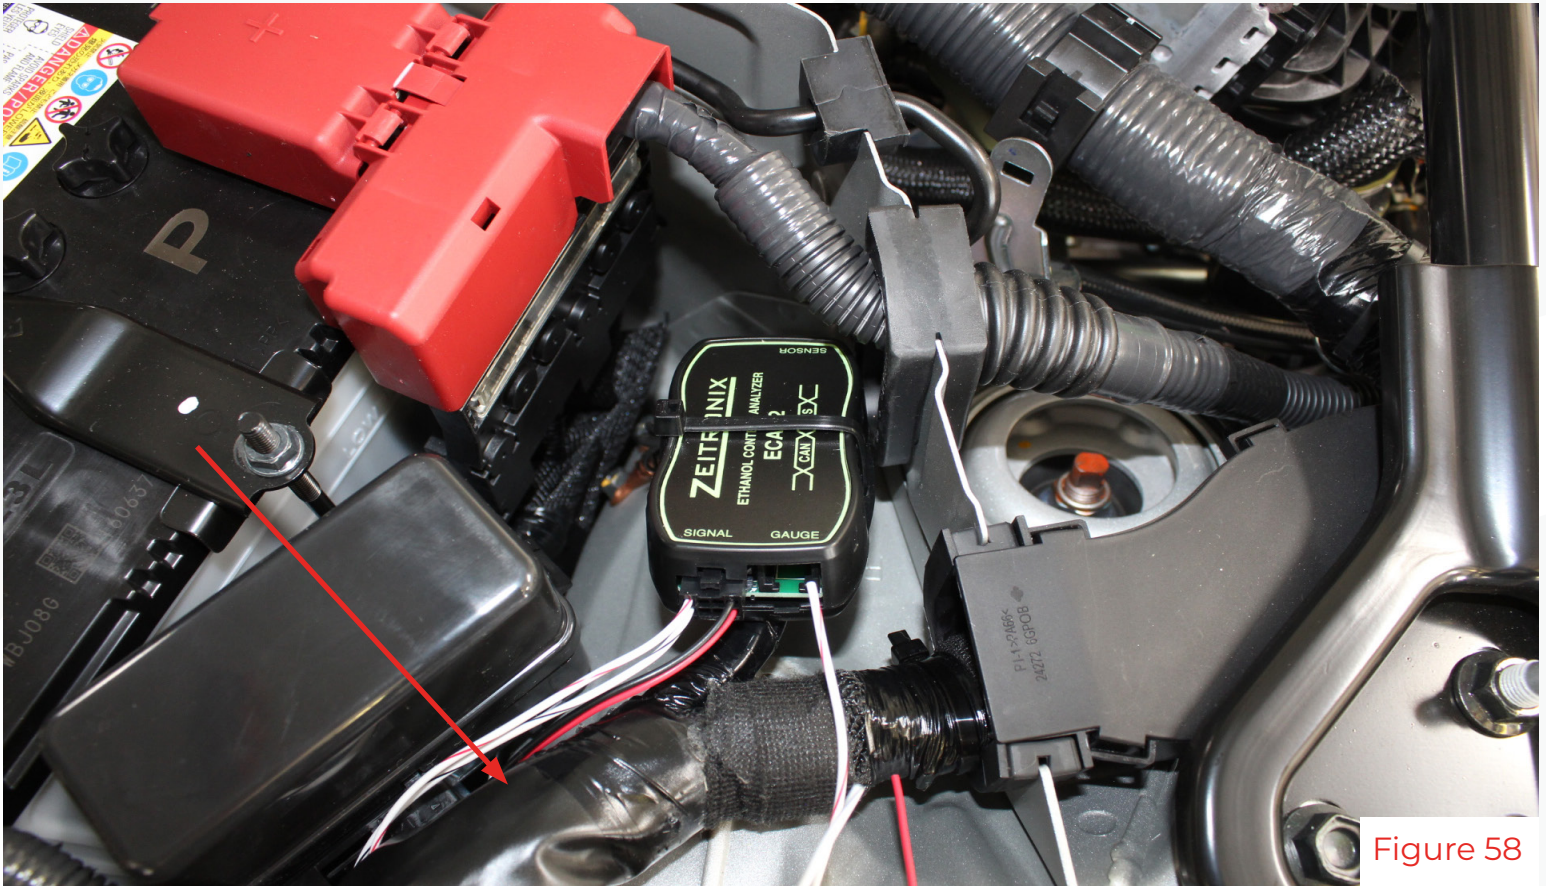

Figure 58
28. Route the harness under the vehicle harness(arrow fig 58) towards the front of the battery. Using one zip tie, mount the Zeitronix box to the harness and plug in the Zeitronix connector.